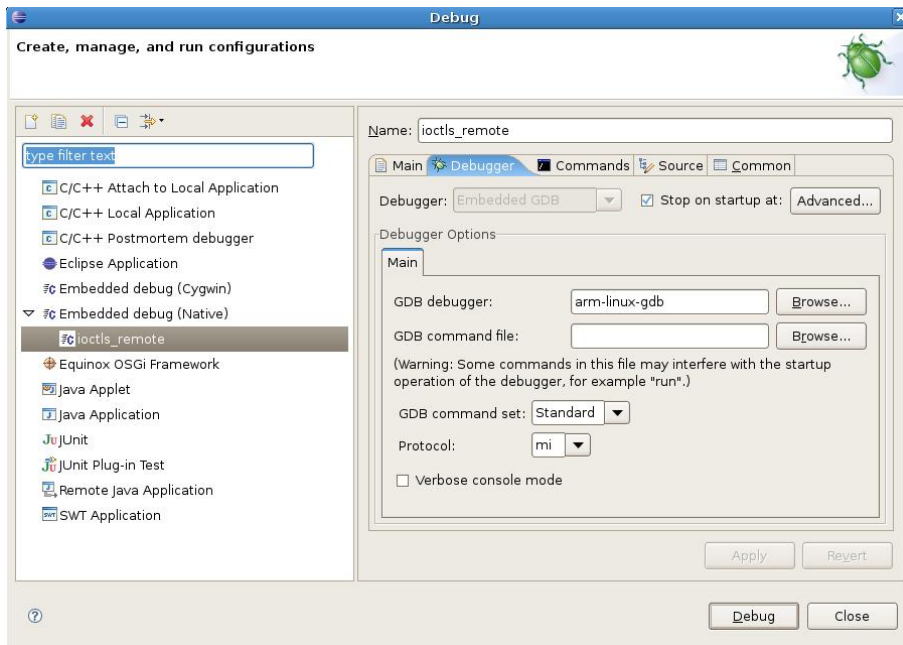

Figure 39: Eclipse debug: Debugger tab
- choose Debugger tab (see Figure 39)